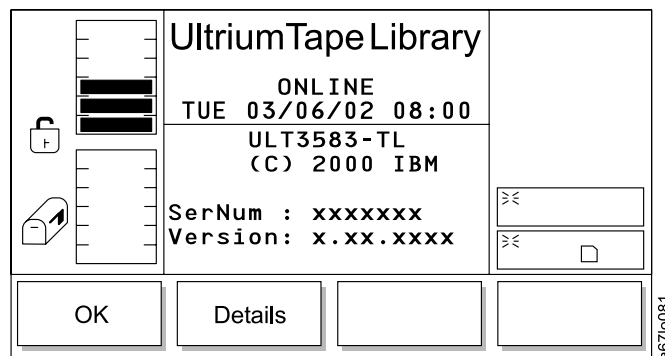

Figure 197. About Menu
Use the About Menu to display the library's serial number, firmware version, and application and boot code for the picker, drive sleds, main board, and display. Select **About** from the Main Menu's alternate screen by pressing the button below the **About** softkey (see Figure 77 on page 89). The About Menu displays (see Figure 197).
- If **Details** is selected, the display toggles back to the About Menu (see Figure 197 on page 151).